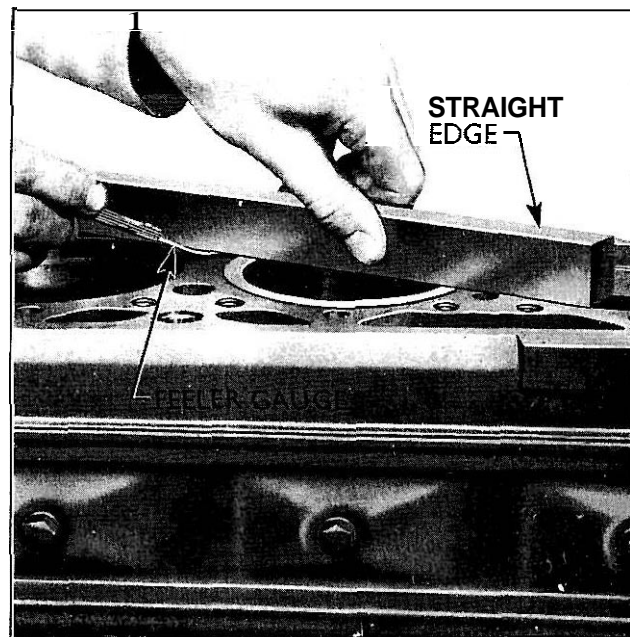

Fig. 30
improvement can be made. Failing this it is advisable to interchange the cylinder liners with the cylinder block locations until it is possible to get all four liners within the 0.002 in. limit. (See Fig. 30.)
- 2 Fit the liners in their location *without the* rubber seals and check that the liner protrusion above the top face of the cylinder block is between 0.002 in. and 0.004 in. and that they are parallel within 0.002 in. Carry out this test with the straight edge in more than one position. (See Fig. 30.)